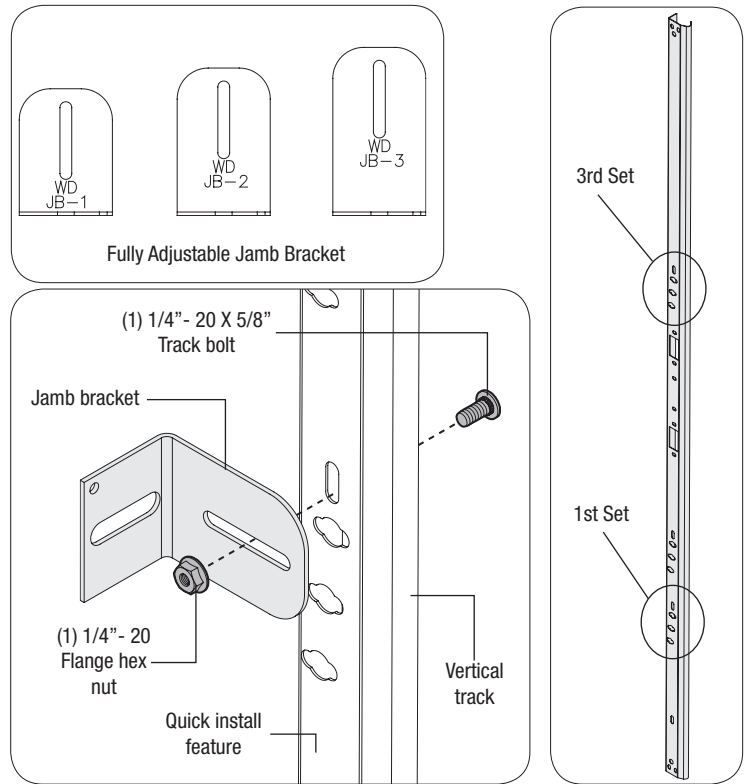

FIG. 3.1
The bottom jamb bracket is always the shortest bracket included with your door. To attach the bottom jamb bracket, locate the first set of quick install features of the vertical track. Align the slot in the jamb bracket with the slot above the quick install features in the vertical track. The long side of the bracket is placed against the track and with the tabs away from the track. Fasten the jamb bracket finger tight, using (1) 1/4" - 20 x 5/8" track bolt and (1) 1/4" - 20 flange hex nut. To attach the top jamb bracket, locate the third set of quick install features of the vertical track. Align the slot in the jamb bracket with the slot above the quick install features in the vertical track. The long side of the bracket is placed against the track. Fasten the jamb bracket finger tight, using (1) 1/4" - 20 x 5/8" track bolt and (1) 1/4" - 20 flange hex nut, as shown in **FIG. 3.1**.